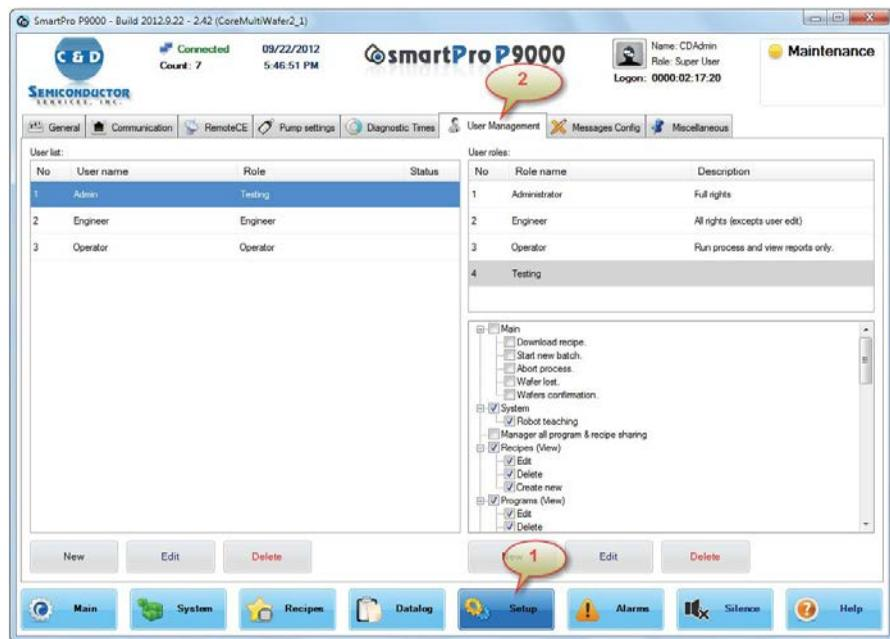
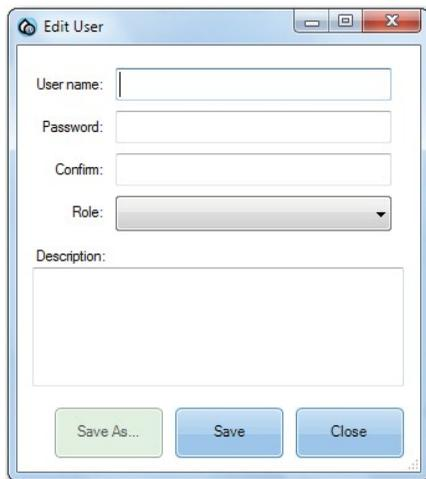

FIGURE 4-15: The User Management page
FIGURE 4-19: Creating a user account
8. From the Setup page, click the User Management tab. See Figure 4-15.
1. From the User roles panel (Figure 4-15), highlight the user role of interest.
7. Click **Save**. See Figure 4-19. The new account shows up under Account list on the User Management page (Figure 4-15).
1. From the User list panel of the User Management page (Figure 4-15), highlight the user account of interest.